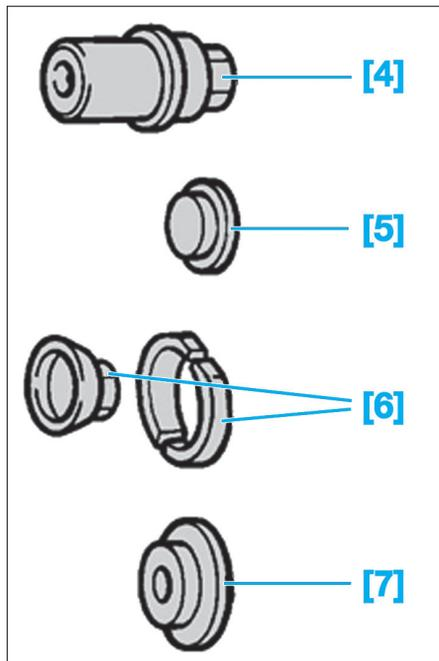

Fig. 31
- [4]. Erou (Ref. 9501-T.C1) (Fig.31).